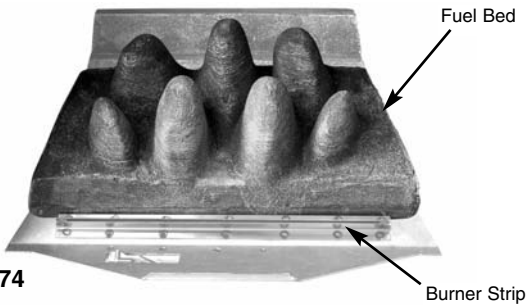

Fig. 74
2. Place the main fuel bed on to the middle section of the metal burner tray. It is important that the front edge of the fuel bed is located behind the burner strip (Fig. 74).